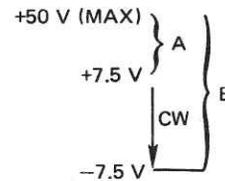

Figure 2-3. Range of Triggering Voltage
20. **TRIG LEVEL Control** – A continuously variable adjustment of the TRIG IN circuitry. When full ccw, approximately a positive going pulse of +7.5 V (A, Figure 2-3) or greater voltage is required for triggering. In the full cw position, a positive going pulse of approximately -7.5 V (B, Figure 2-3) or more positive voltage is required for triggering. In the GATED mode, the generator will begin to run continuously at some position of the control cw past 12 o'clock. When using the MAN TRIG, this control must be ccw of the midpoint.